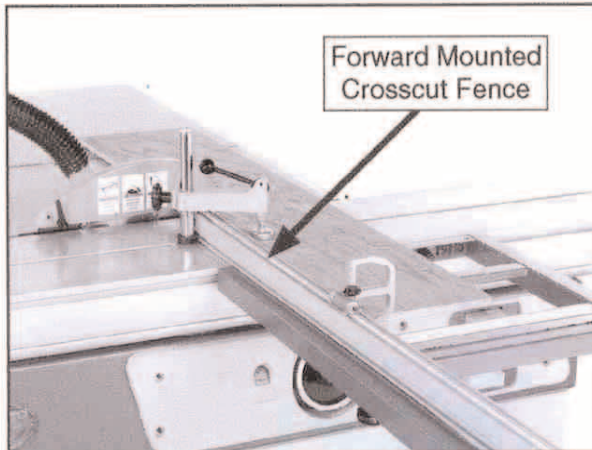

Figure 57. Typical crosscutting operation with the crosscut fence in the forward position.
The Model W 718 can crosscut 4' x 8' panels with the fence in the forward or rear position, although it is easier to load full size panels with the crosscut fence mounted in the forward position (see **Figure 57**).
4. Load the workpiece onto the table saw. The setup should look similar to **Figure 57**.